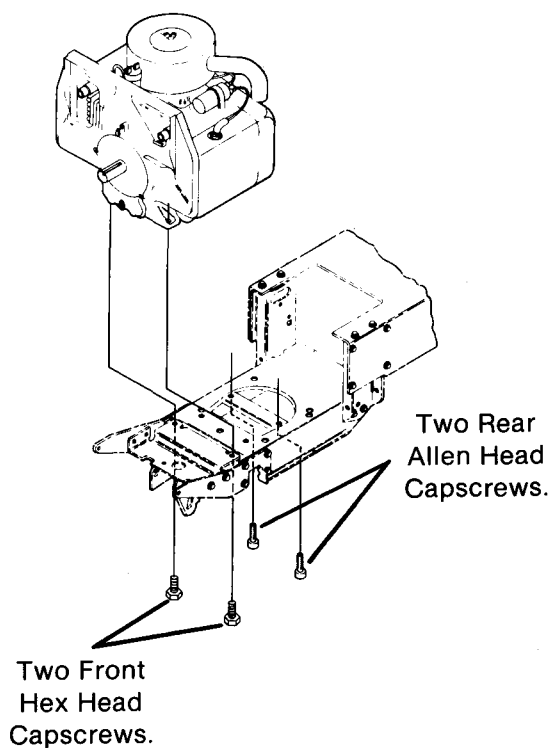

FIG. 10
- N. Remove two rear allen head capscrews securing rear engine mounts to main frame. Remove two hex head capscrews securing front engine mounts to main frame. (Fig. 10)